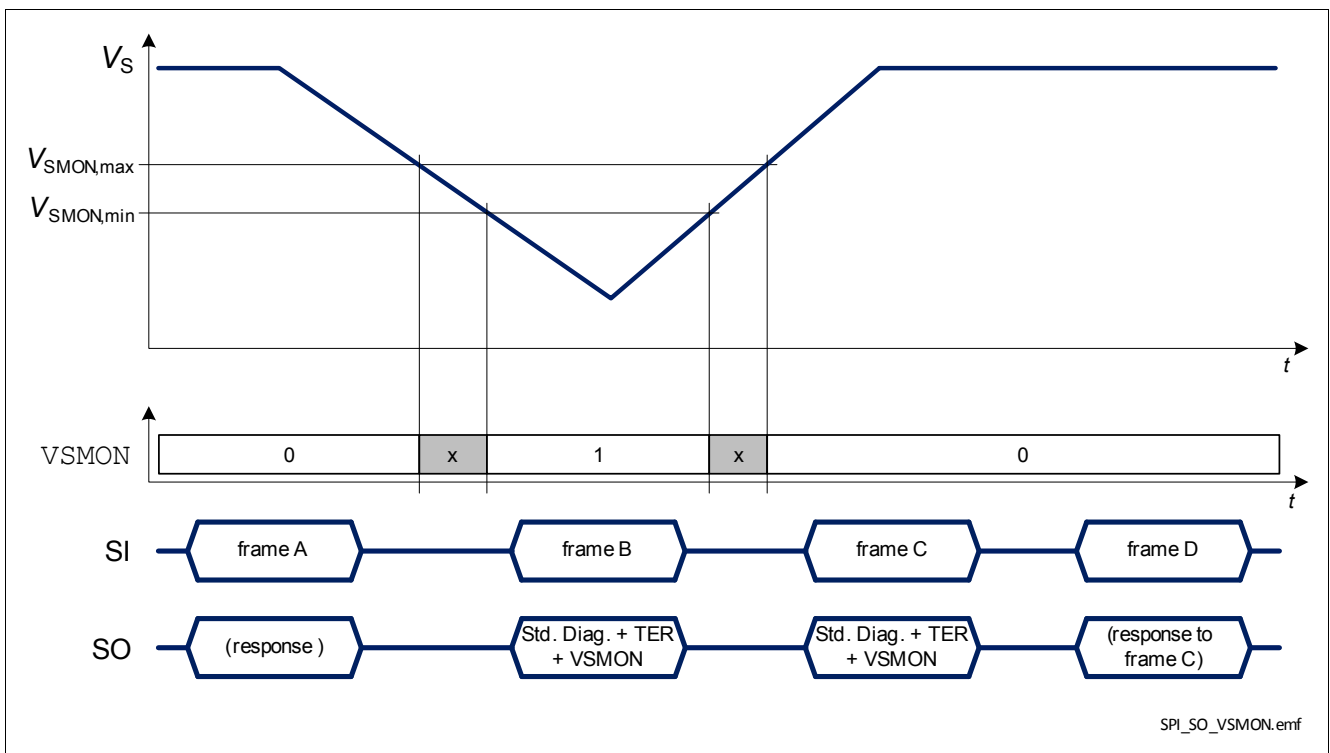

Figure 34 BTS54220-LBB response in case of a negative battery voltage transient
- when $V_S < V_{SMON}$ and $\text{DCR.MUX} \neq 111_B$, as shown in Figure 34